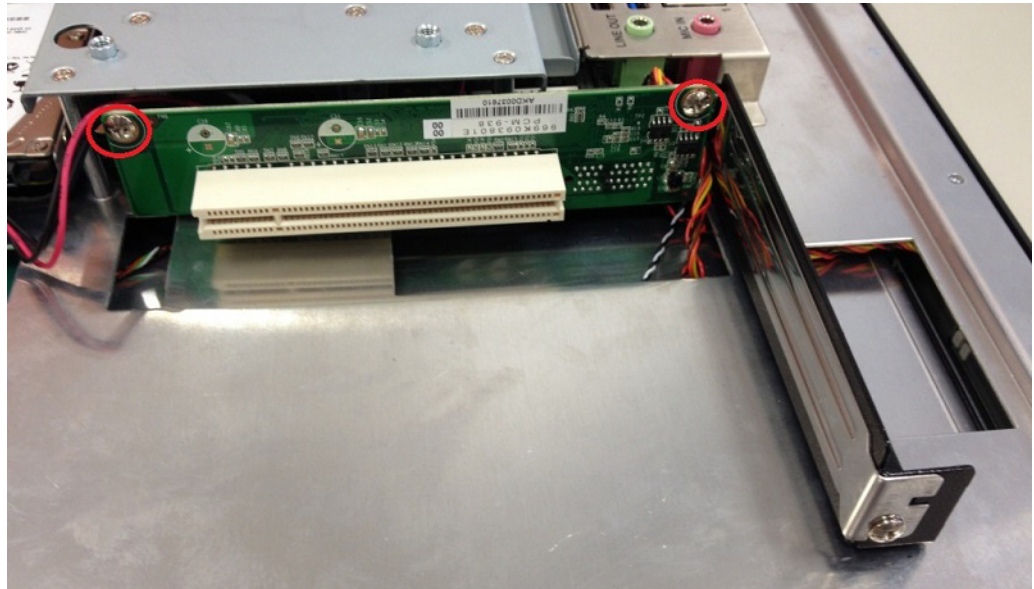

Figure 2.29
2. Insert the riser card into the slot, and secure in place using two screws (see Fig. 2.29). The default riser card is PCIe-to-PCI. However, a PCIe-to-PCIe card is provided in the accessory box, allowing users to select the appropriate card according to their usage requirements.